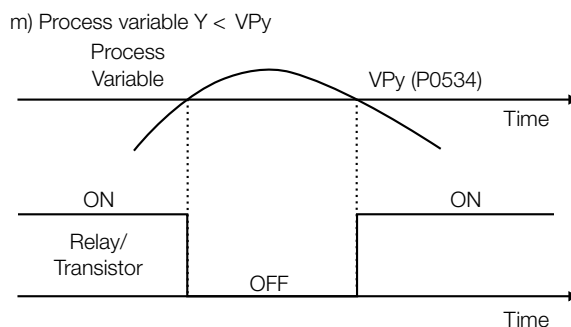

Figure 5.37: (a) to (m) - Details on the operation of the digital output functions
- Refer to Table 5.45 on page 5-62 and the Figure 5.37 on page 5-64 for more details regarding the digital outputs and relays.